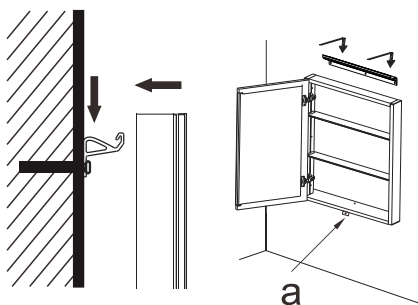
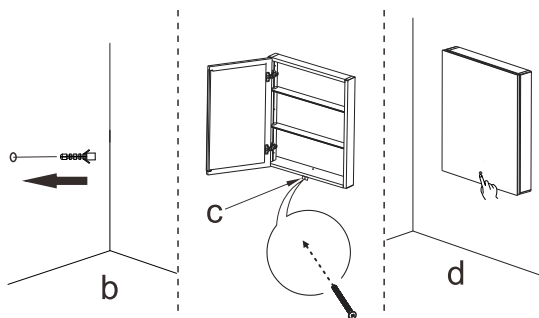

Fig.5
Fig.6
- 2.3 Install the mirror cabinet on the hanging strip ,see details in Fig.5. Choose right locating place and use pencil to make sign on the wall through the base fixing the hole (a).
- 2.4 Remove the mirror cabinet, drill the fixing hole in the wall in the marked position, and place the expansion plugs (Fig. 6-b).
- 2.5 Repeat as shown in Fig.5 to install the mirror cabinet on the wall. Lock the fixing plate at the bottom of the mirror cabinet on the wall with screws (Fig.6-C)
- 2.6 finally,switch on the power,and then touch the "switch" sign (fig.6-d)with a finger on the lens to test the products